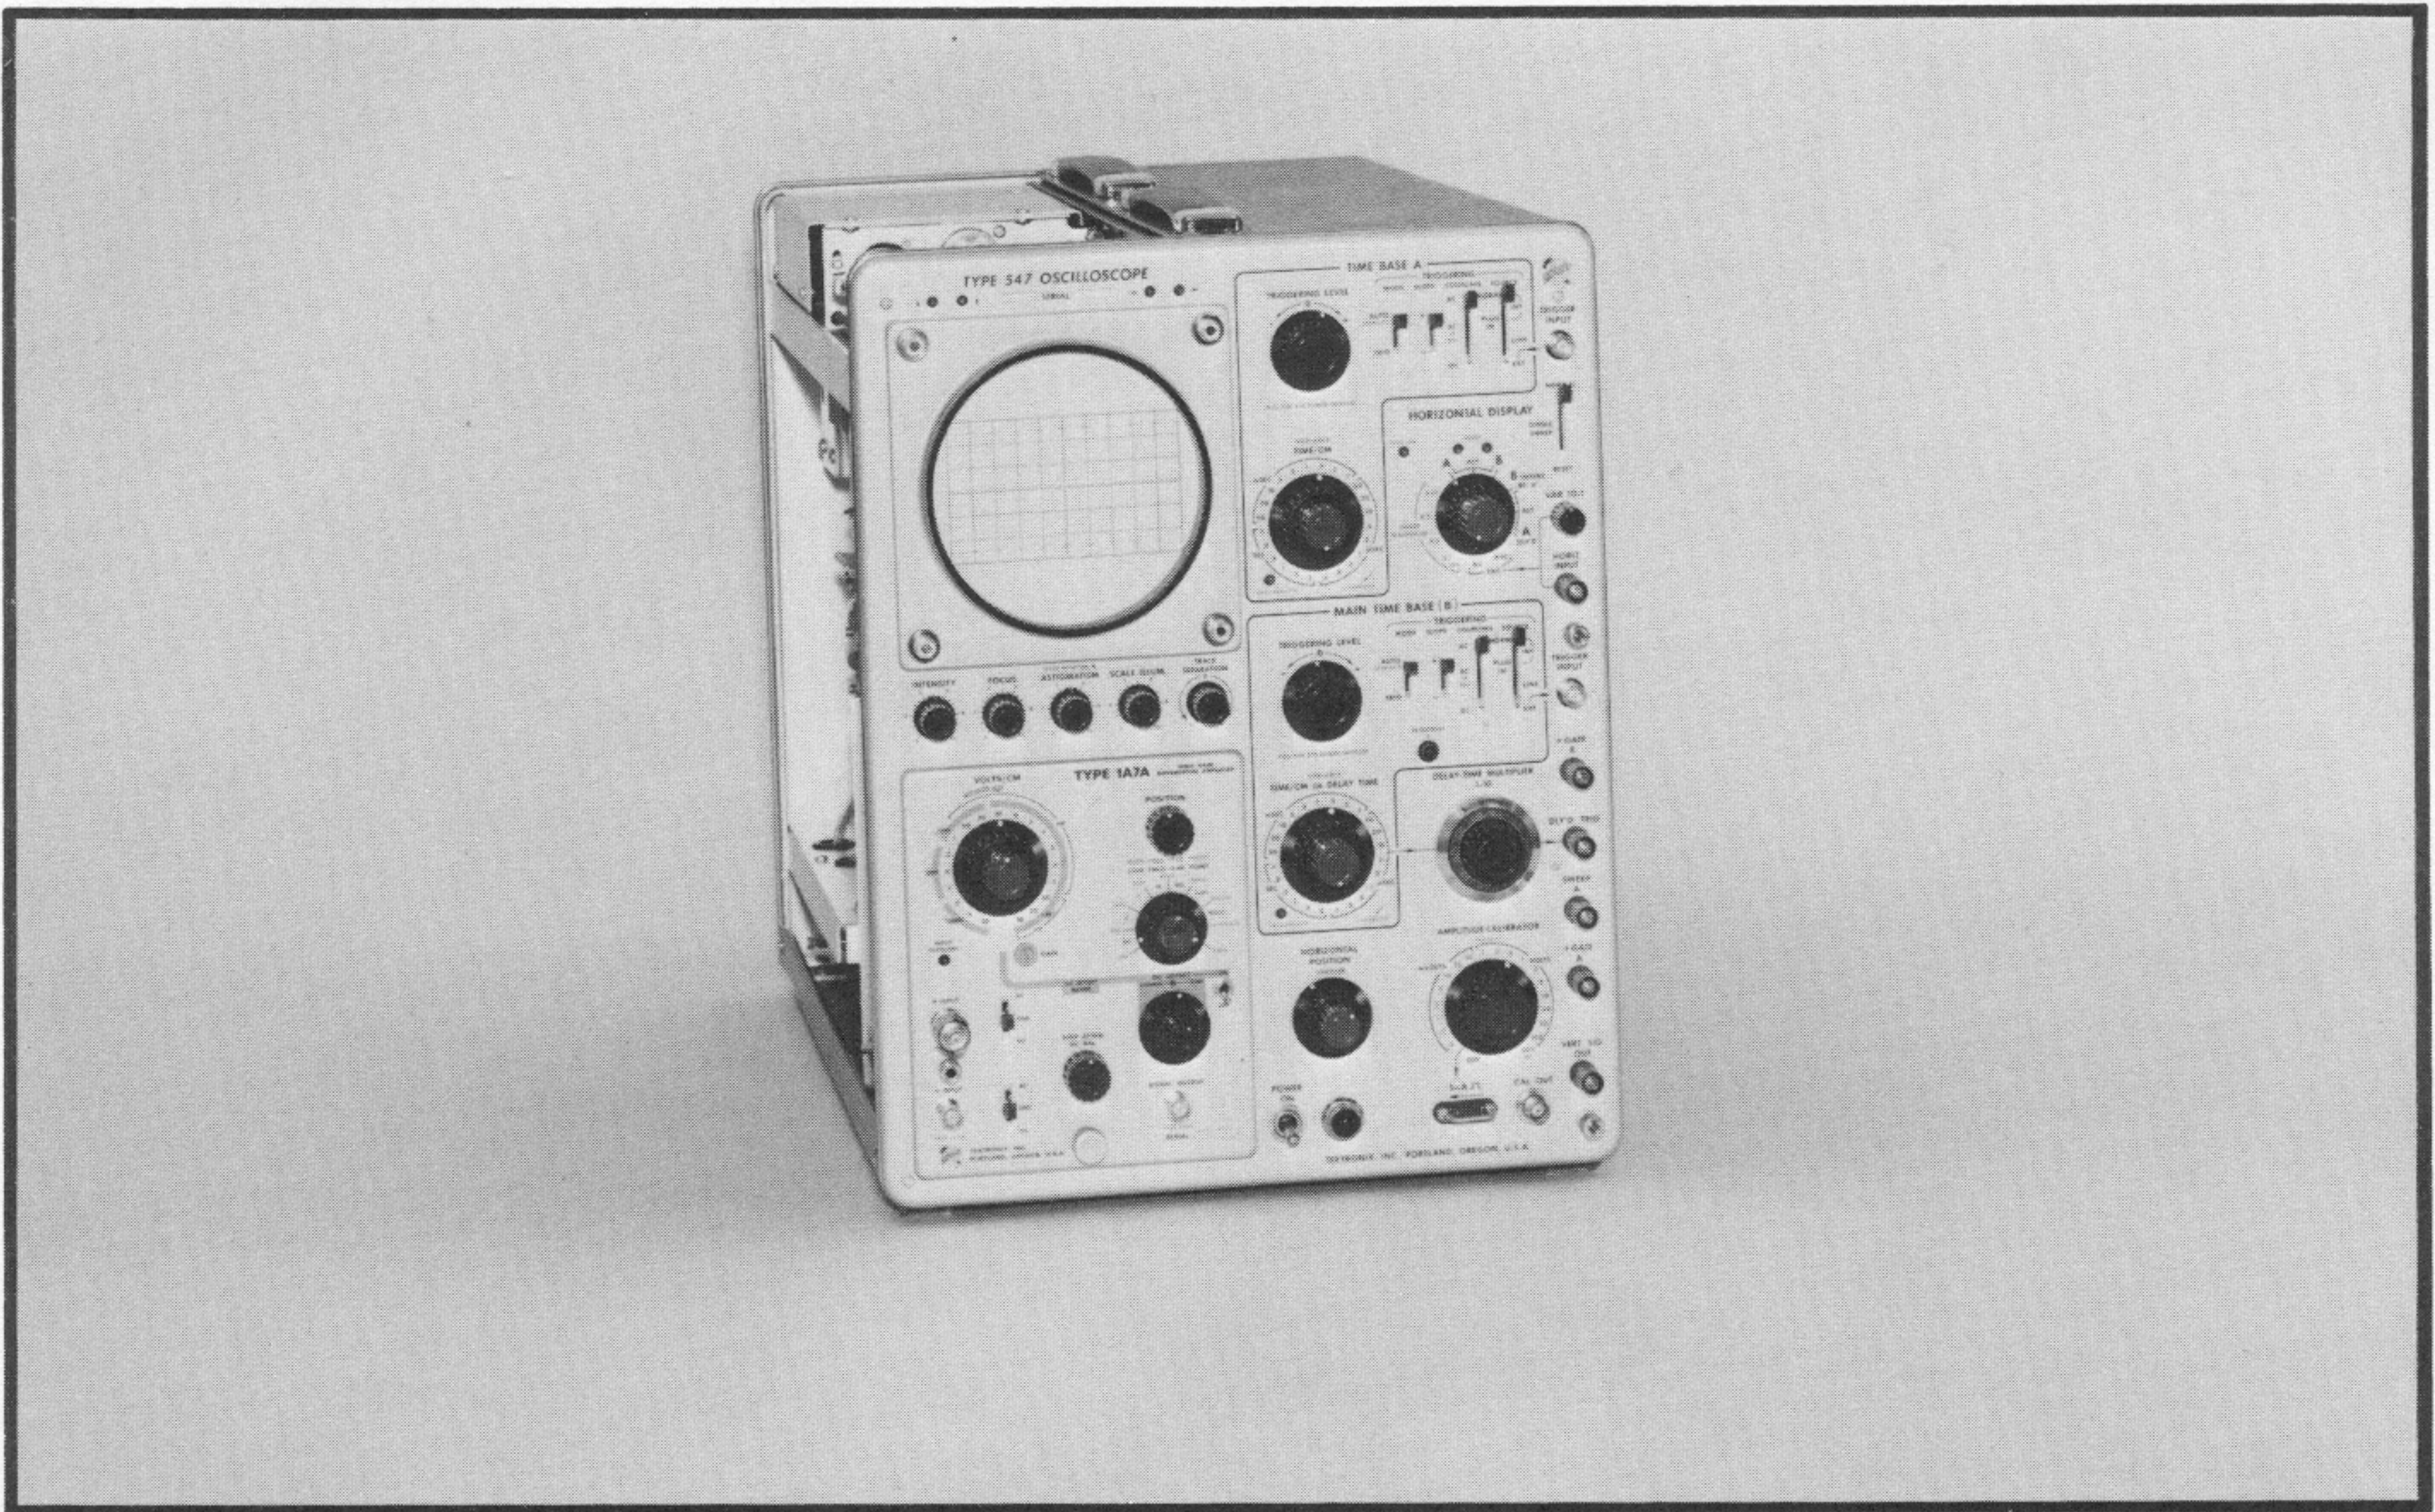

Fig. 5-7. Test equipment setup for steps 7 and 8.
①
- a. Test equipment setup is shown in Fig. 5-7.